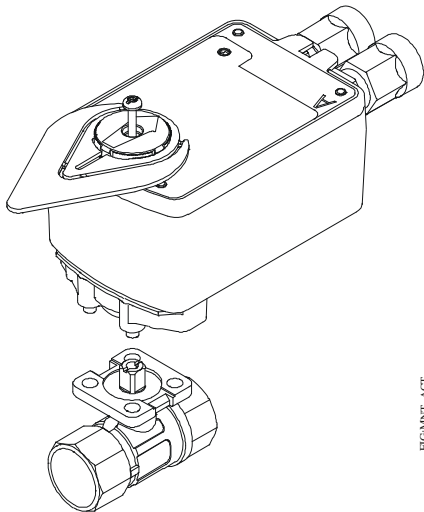

Figure 12: Mounting the Actuator
6. Install the actuator on the ball valve (Figure 12). Tighten the actuator mounting screw to a torque of 10 to 12 lb-in. (1.1 to 1.4 N·m) and snap the large adjustable pointer into place.